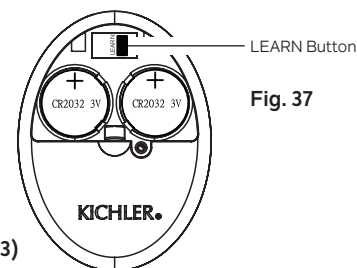

Fig. 37
This fan sounds confirmation beeps during the fan control setup process, and any time that a button is pressed on the transmitter. The confirmation beeps can be muted by pressing the "LEARN" button on the transmitter. (Fig. 37)
Step 2. Press the "LEARN" button once to mute the confirmation beeps. (Fig. 37)
After installing a replacement receiver (See the "**ELECTRICAL CONNECTIONS**" instructions on **Pages 11 and 12**) a replacement receiver can be paired to the transmitter by pressing the and holding the "**LEARN**" button on the transmitter. **(Fig. 37)**
Step 2. Restore power to the ceiling fan branch circuit at the circuit breaker or fuse box. Within 30 seconds of restoring power, press the "**LEARN**" button **(Fig. 37)** for about 2-3 seconds. The light kit (if installed) will blink twice and the fan will beep twice to signal that the pairing process is complete.
A replacement transmitter can be paired to the receiver by pressing the and holding the "**LEARN**" button on the transmitter. **(Fig. 37)**